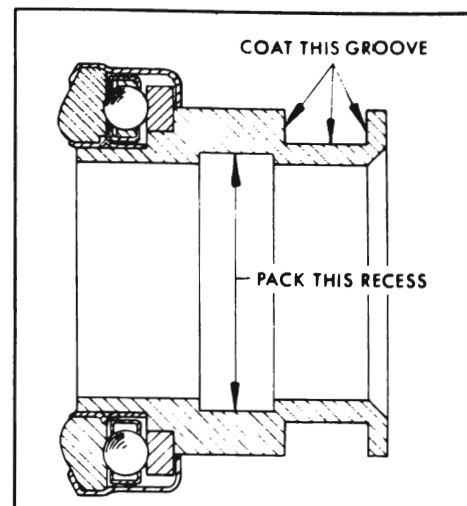

Figure 4-5—Lubricate Bearing
The throw-out bearing assembly is mounted over a retainer which retains the transmission main drive gear bearing. The throw-out bearing is filled with lifetime lubricant in production and no further lubrication is required; however, there is a groove in the inner surface which must be filled. See Figure 4-5. Fill groove with wheel bearing lubricant or a heavy grease.
3. Fill groove in throw-out bearing with wheel bearing lubricant (See fig. 4-5). Make sure transmission front bearing retainer sleeve is clean and apply a light coat of wheel bearing lubricant. Slide throw-out bearing over transmission retainer several times. Remove throw-out bearing and wipe off all excess lubricant pushed up by hub of bearing.